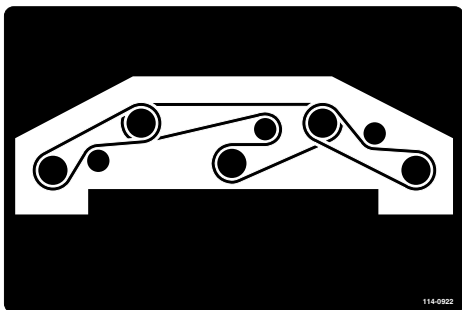

**Figure 84**
- 3. Using a ratchet wrench or similar tool, move the idler pulleys (Figure 84) away from the drive belt to release the belt tension and allow the belt to be slipped off the pulleys.